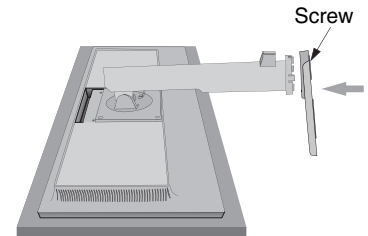

Figure 2
3. Attach the base stand to LCD monitor and properly lock screw of base stand bottom (**Figure 2**).